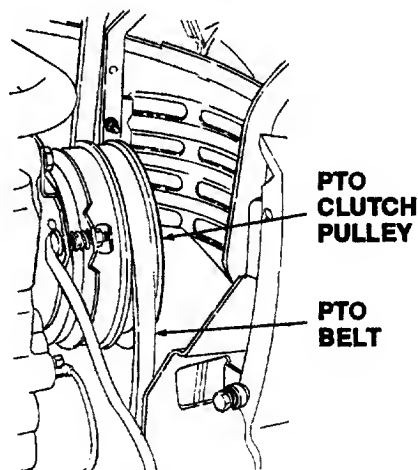
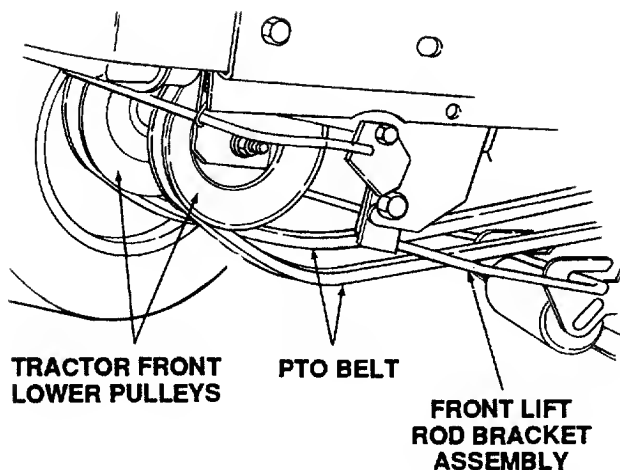

Figure 39
Figure 40
7. Remove the forward end of the PTO belt from the engine PTO clutch pulley (Refer to Figure 39). Pass the PTO belt downward, inside the tractor frame, until the belt is below the two tractor front-lower pulleys (Refer to Figure 40).